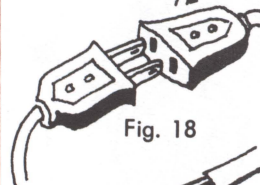

Fig. 18
1. By cutting out the broken piece and inserting a cord connector. Fig. 18.